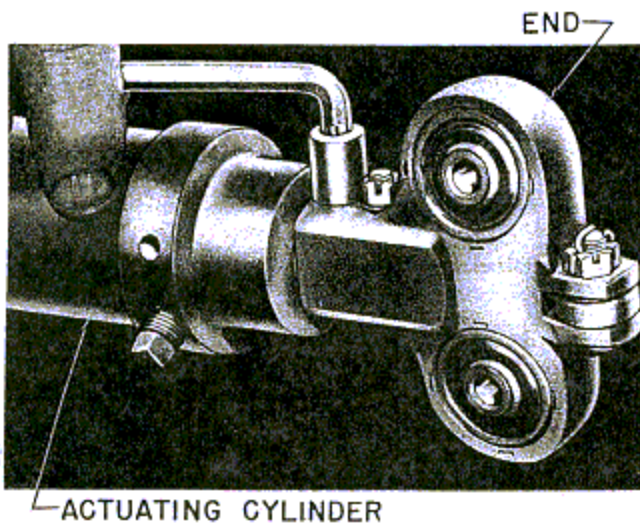

Figure 249—Removing End of Piston Shaft
6. Remove the cotters, nuts, and washers from the two bolts attaching the end of the piston shaft. (See figure 249.)